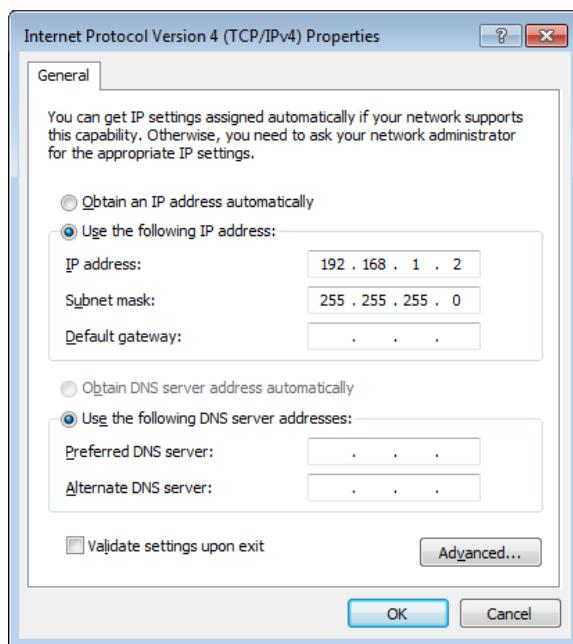

Figure 1.16. Static IP configuration for the host computer
1. Use one of the network cards and set it to static IP in TCP/IPv4 using the IP address 192.168.1.n, where n=[2..9] and the mask 255.255.255.0, see Figure 1.16 (go to Control Panel → Internet Options → Network and Internet → Network and Sharing Center → Local Area Connection → Properties).